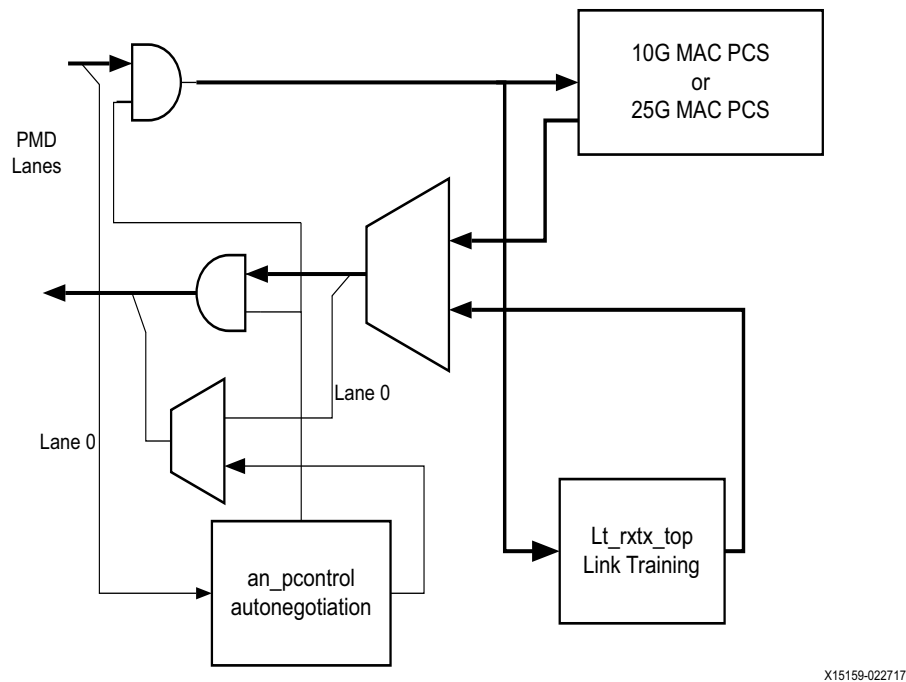

Figure 3-15: Core with Auto-Negotiation and Link Training
A block diagram of the 10G/25G Ethernet core with Auto-Negotiation (AN) and Link Training (LT) is shown in Figure 3-15.
Link Training is performed after auto-negotiation if the Link Training function is supported by both ends of the link. Link Training is typically required due to frequency-dependent losses which can occur as digital signals traverse the backplane. The primary function of the Link Training block included with this core is to provide register information and a training sequence over the backplane link which is then analyzed by a receiving circuit (part of the transceiver). The other function of the Link Training block is to communicate training feedback from the receiver to the corresponding transmitter so that its equalizer circuit (part of the transceiver) can be adjusted as required. The decision-making algorithm is not part of this core. When auto-negotiation and Link Training are complete, the datapath is switched to mission mode (the PCS), as shown in Figure 3-15.